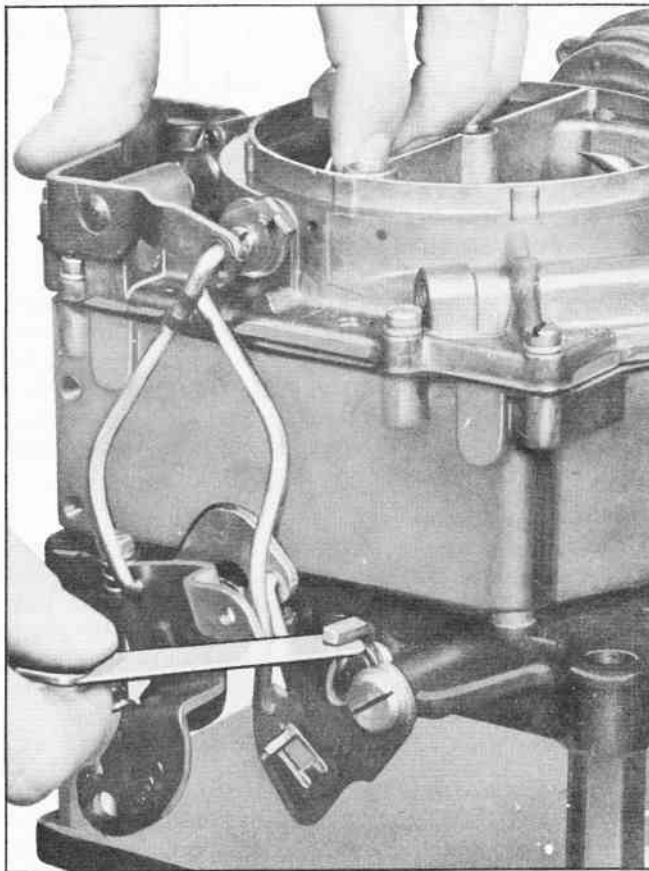

Fig. 30 Checking Secondary Throttle Contour Clearance
1. With choke valve held wide open and the fast idle cam and secondary lockout lever positioned as shown in Fig. 30 there should be a clearance of .015" between the cam and the tang.